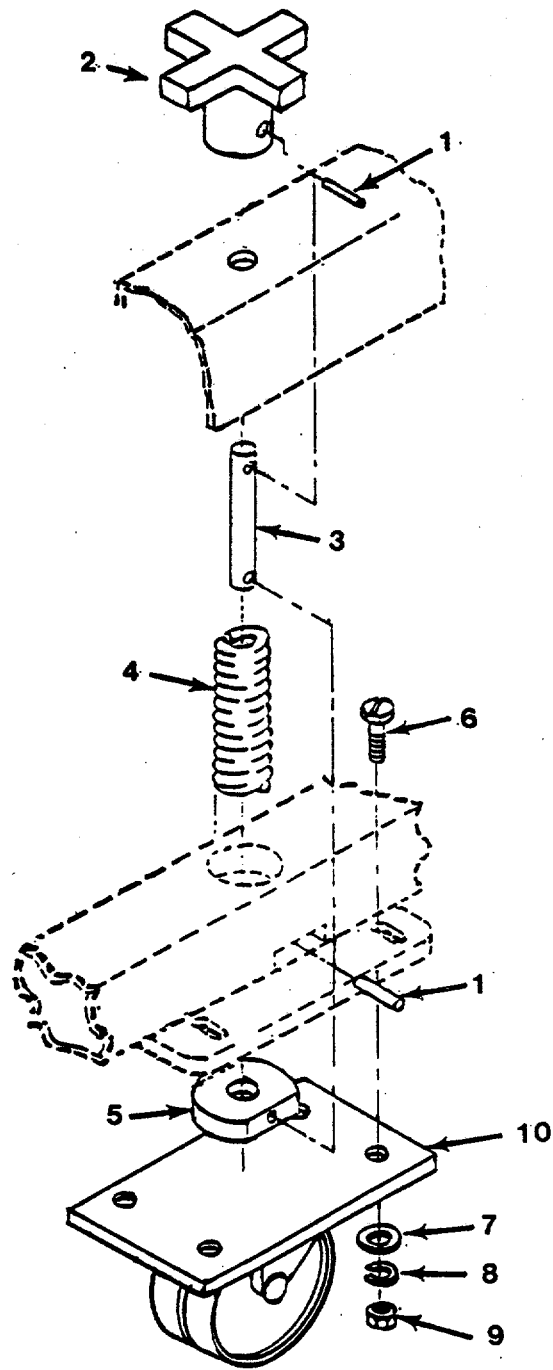

Figure 17. Transporter Wheel Assembly
| (1) ITEM NO | (2) SMR CODE | (3) CAGEC | (4) PART NUMBER | (5) DESCRIPTION AND USABLE ON CODES(UOC) GROUP 07 PAPER STORAGE RACK ASSEMBLY WITH TABLE STORAGE FIG. 17 TRANSPORTER WHEEL ASSEMBLY | (6) QTY |